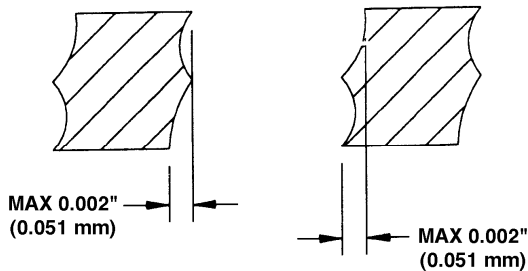

**Figure 5**
*lateral etch or undercut* — The allowable bevelled edge caused by the leadframe etchant attacking the metal laterally as well as vertically (see Figure 5).